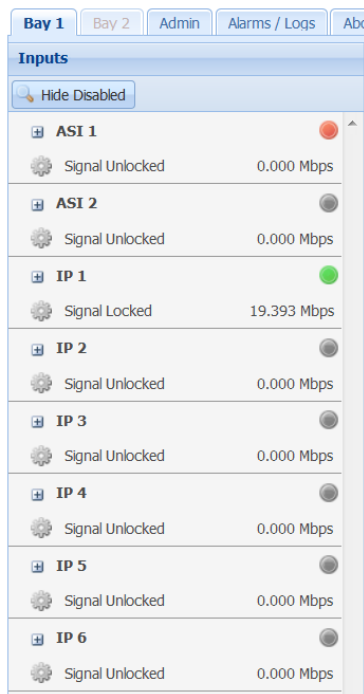

Figure 22 IP inputs on SMD912
The IP inputs available on the SMD 912(A) modulator include (6) IP inputs. These six inputs may be sourced from either IP port 1 or IP port 2. These six possible inputs are shown when the Show Disabled icon is selected as shown in figure 22.